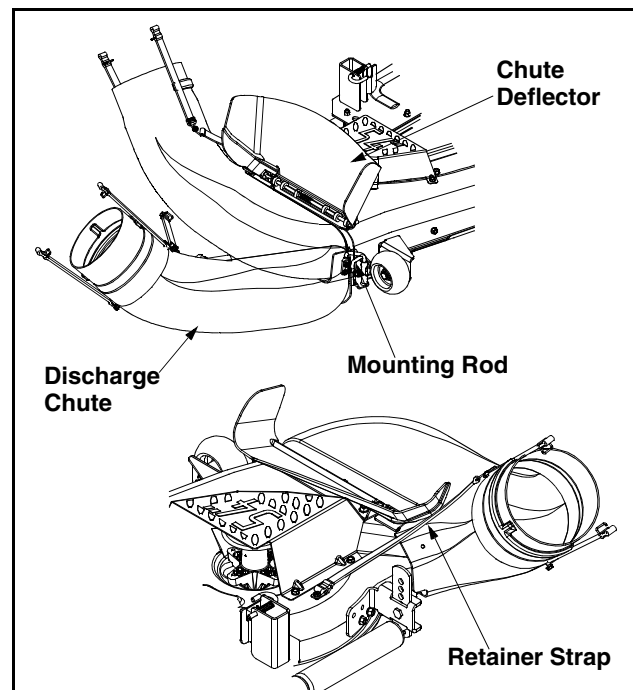

Figure 5
- While raising the chute deflector on the deck, angle the front corner of the discharge chute over the stop assembly and then slide the mounting rod into the stop assembly. See Figure 5.